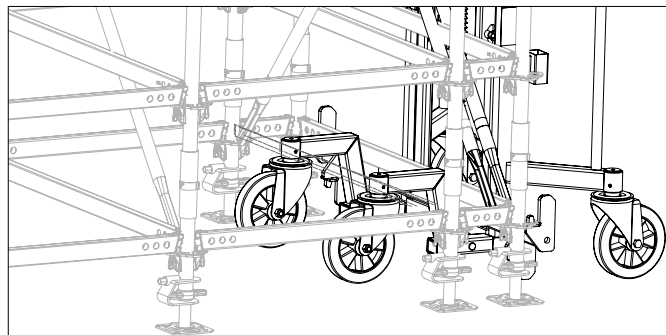

Fig. C1.03a
- Check the clearance to the ledger brace (5)! (Fig. C1.03a)